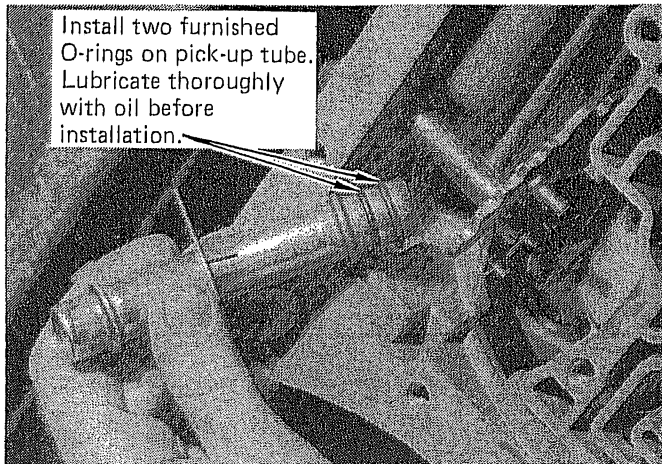

FIGURE 57
**STEP 31.** Install new oil filter. For longer transmission life and improved oiling system, install B&M Competition Oil Pickup #20287. Install two filter tube O-rings on your pick-up tube. (See Fig. 57) Thoroughly lubricate the O-rings with automatic transmission fluid. Push the pick-up tube-filter assembly into the transmission. On '68 and later models install the filter retaining bolt and torque to 10-ft lbs. This bolt has a 1/2" shoulder on it so the filter is free to "float."